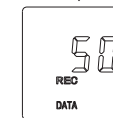

Fig.3
(1). To set the number of the times of data recording. The sign "REC" and sign "DATA" would both flicker in the LCD(Fig.3) and the number of recording times displays. Press **HOLD** and **MAX** to set the number from 1 to 50.